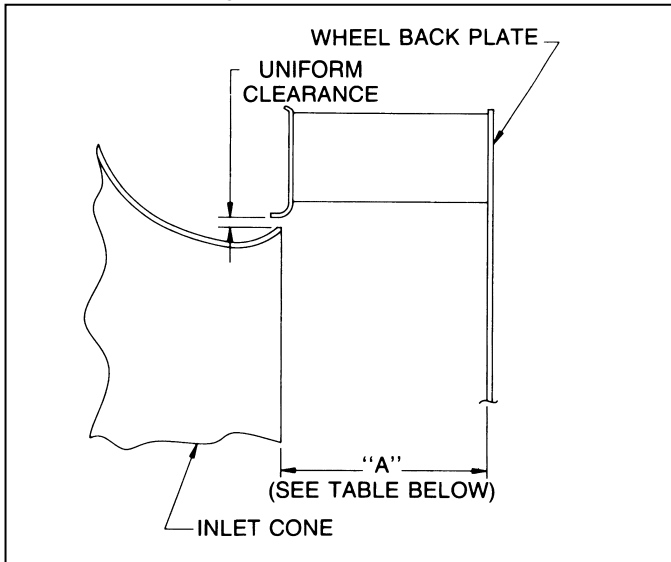

Figure 3
6. When installing a new Tubular Centrifugal wheel or inlet cone, the proper wheel-to-inlet cone clearance must be maintained (See Figure 3 for correct full-width wheel dimensions).